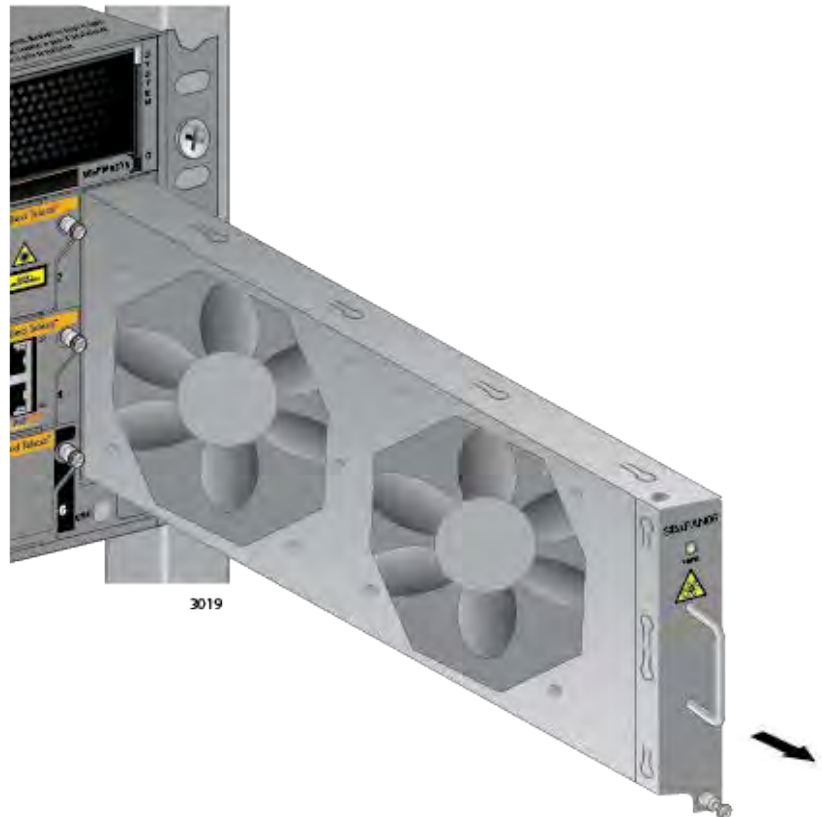

Figure 189. Removing the AT-SBxFAN06 Fan Module from the Chassis
6. After the fans have stopped, slide the module from the chassis. Refer to Figure 189 on page 294.